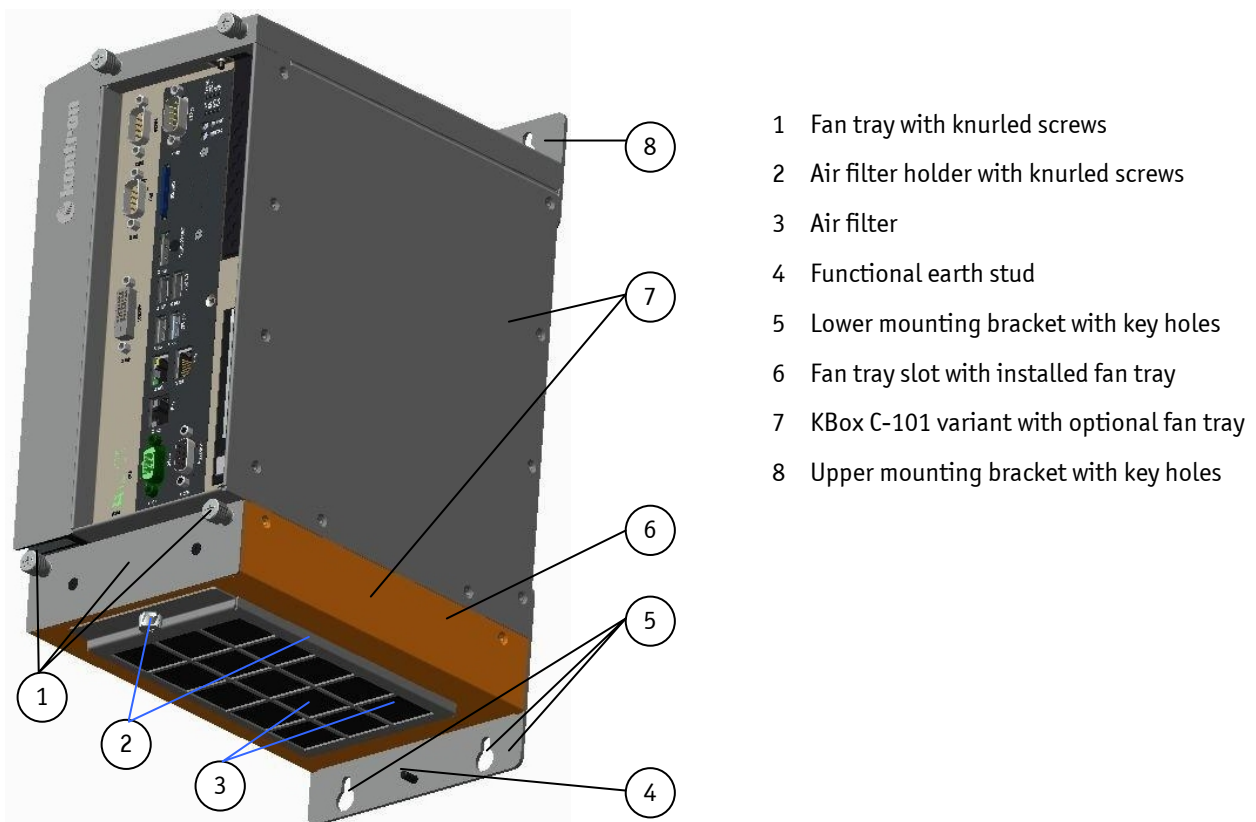

Fig. 39: KBox C-101 equipped with the optional fan tray
This KBox C-101 version with optional chassis extension (named in this manual as fan tray slot) and installed fan tray is designed to provide forced cooling through the system chassis. The KBox C-101 can be only factory equipped with the optional fan tray (Fig. 39). The fan tray slot is external mounted to the bottom side of the KBox C-101 chassis and comprises a fan tray (Fig. 39, pos. 1) with one fan.
The fan is integrated in a user-friendly, replaceable fan tray (hot-swap). The fan tray is designed to be inserted into the fan tray slot (Fig. 39, pos. 6) on the bottom side of the KBox C-101. The fan tray simplifies the installation and removal of this component, even during operation.
In order to ensure a clean air circulation through the system, there is integrated in the fan tray slot assemblies on the bottom side of the system, a holder (Fig. 39, pos. 2) with an installed air filter (Fig. 39, pos. 3).
The air filter is inserted in the holder (Fig. 39, pos. 2) at the bottom side of the fan tray slot (Fig. 39, pos. 6). The soiling of the air filter (Fig. 39, pos. 3) is caused by the pollution of the operating environment. A heavily soiled air filter can cause excessive heating of the device. For this reason we recommend to clean the air filter as often as necessary. The air filter can be changed during operation of the system.